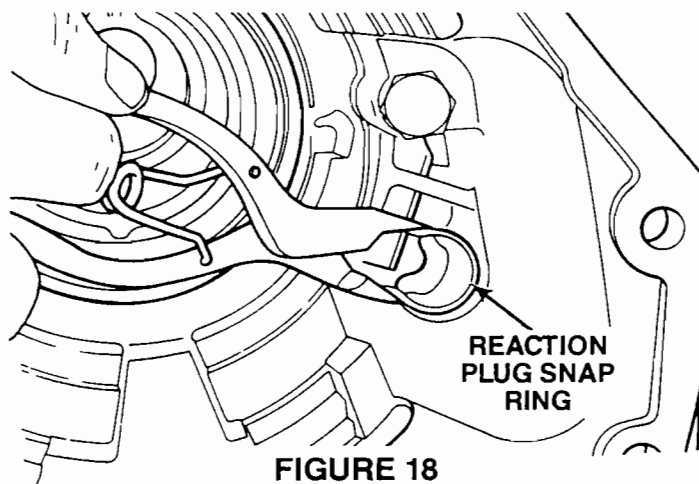

FIGURE 18
9. To remove the parking mechanism, first remove the reaction plug snap ring (Figure 18). Care should be taken to compress the snap ring only enough to allow its removal.